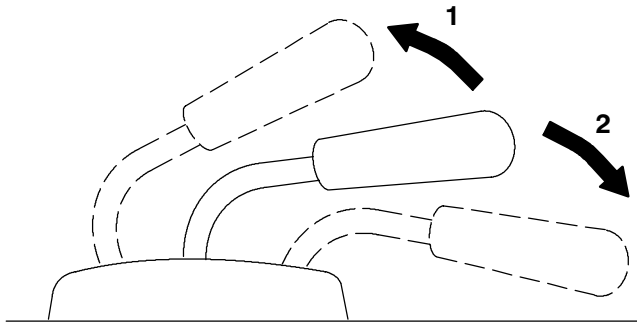

Figure 19
2. Pull the lift lever UP to raise the attachment (Fig. 19). This will lift and hold the attachment in the raised position.
2. Push the lift lever **DOWN** to lower the attachment (Fig. 19).